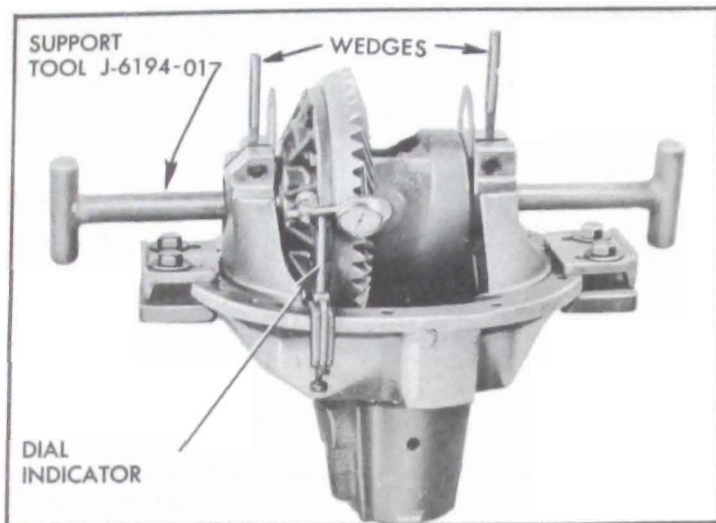

Figure 6-33—Positioning Differential for Correct Backlash
2. Place case assembly and differential bearings in position in carrier. If same bearings are used, install in original positions. Insert Support Tools J-6194-01 through the pedestal bores into the bearing inner races. Press tools toward each other to seat them, using hand pressure. If support tools are loose, install pedestal clamp bolts and nuts and tighten lightly until support tools can just be moved by twisting them. If support tools are too tight, loosen them as necessary by slightly wedging pedestals open with chisels. See figure 6-33.